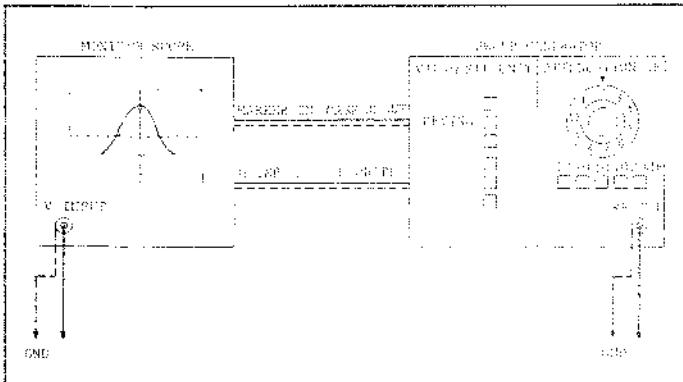

Fig. 44 Connection of Measuring Equipment
2. Set the BAND SW to the VHF high position (VH) and turn the tuning volume so that the voltage at BT terminal of the tuner becomes 15V.
3. Connect the VIF Sweep to Test Point of the Tuner and connect the Monitor Scope to TP714 as shown in Fig. 44.
1. Set the BAND SW of the deck to the VHF high position(VH) and turn the tuning volume so that the voltage at BT terminal of the tuner becomes 15V.
2. Connect the VIF Sweep to TP703 and connect the Monitor Scope to TP707 as shown in Fig. 44.